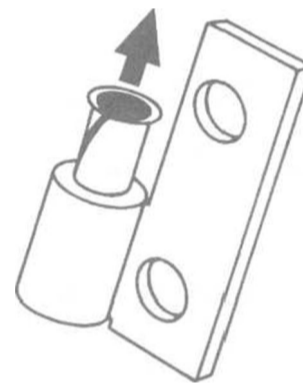

Fig. 5. Door hinge bearing sleeve. **Arrow** indicates bearing removal direction.
3. Drift old bearing sleeve from hinge half. See Fig. 5.